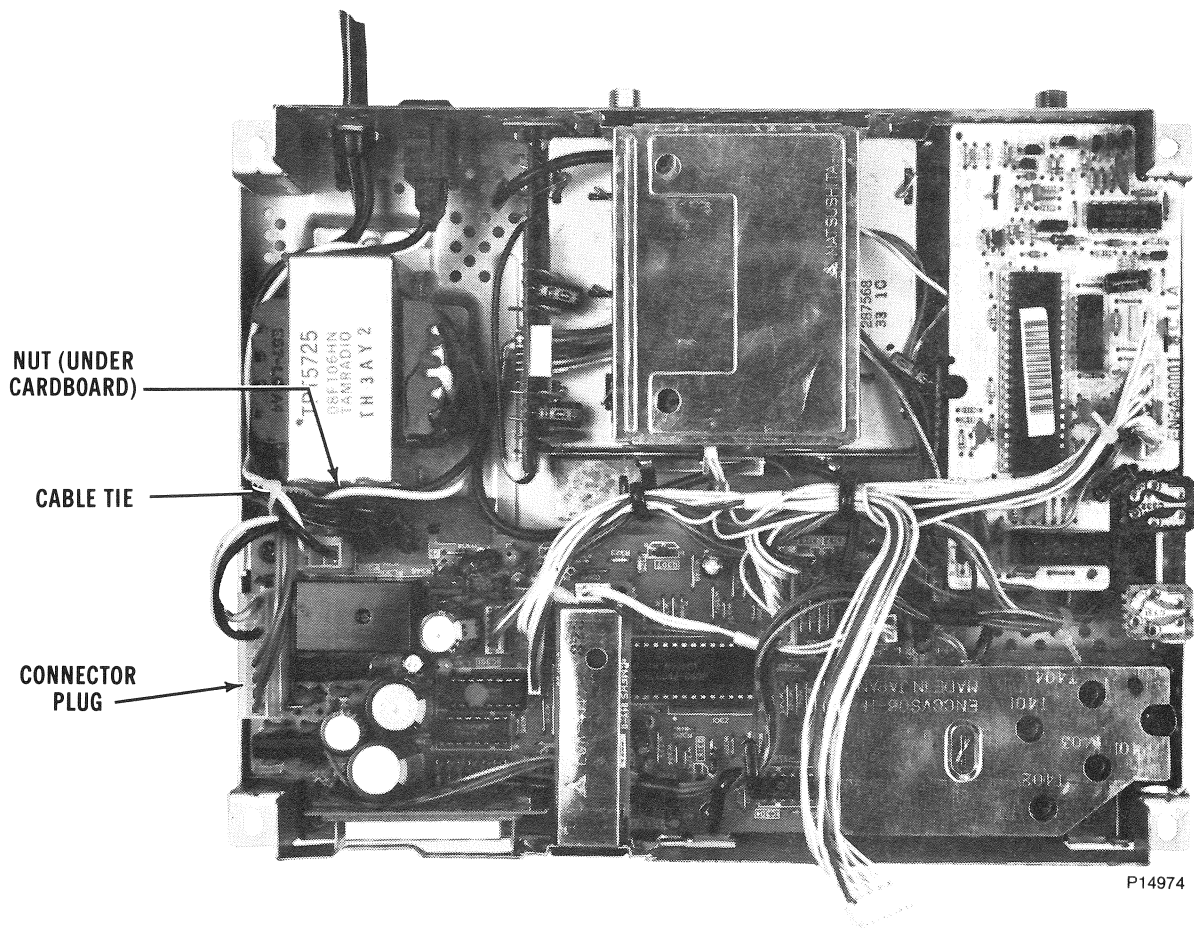

Figure 5-9. Power Tranformer Removal
5.3.2.9 Power Transformer Removal (figure 5-9).